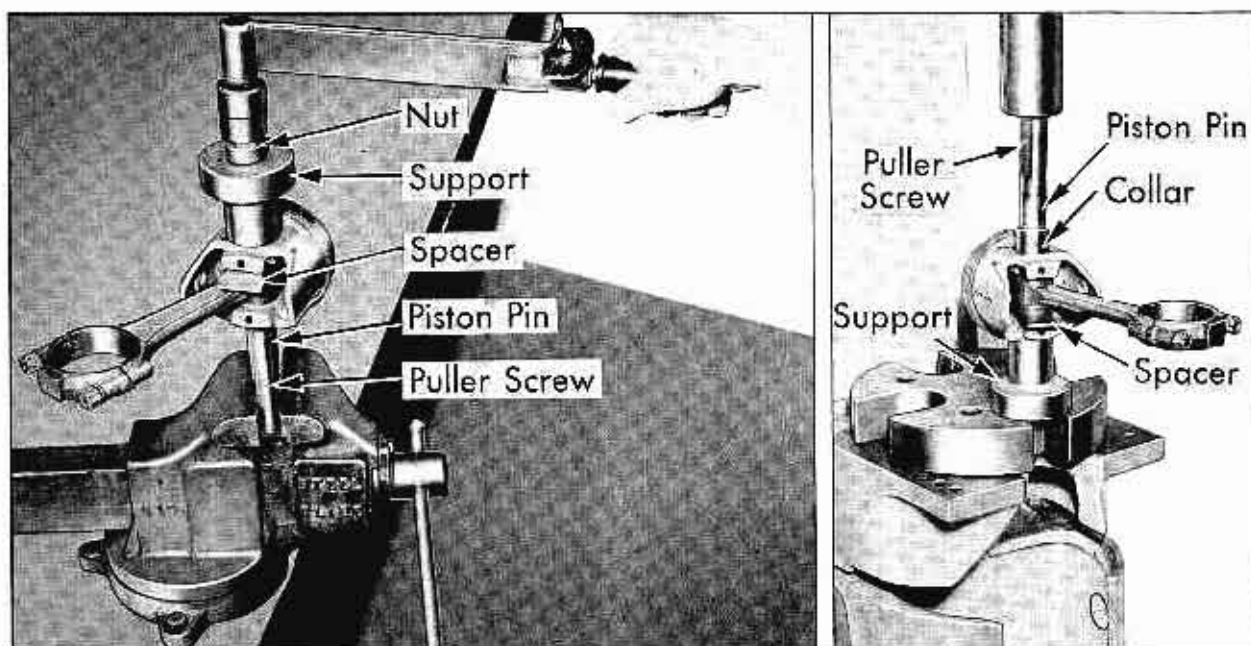

Fig. 10-24 Installing Piston Pin in Piston and Connecting Rod
8. Install nut on puller screw and tighten with torque wrench to start piston pin into connecting rod, Fig. 10-24.
9. Install collar over piston pin, Fig. 10-24.
12. Press piston pin in until pilot bottoms in support, properly positioning the pin in the rod, Fig. 10-24.